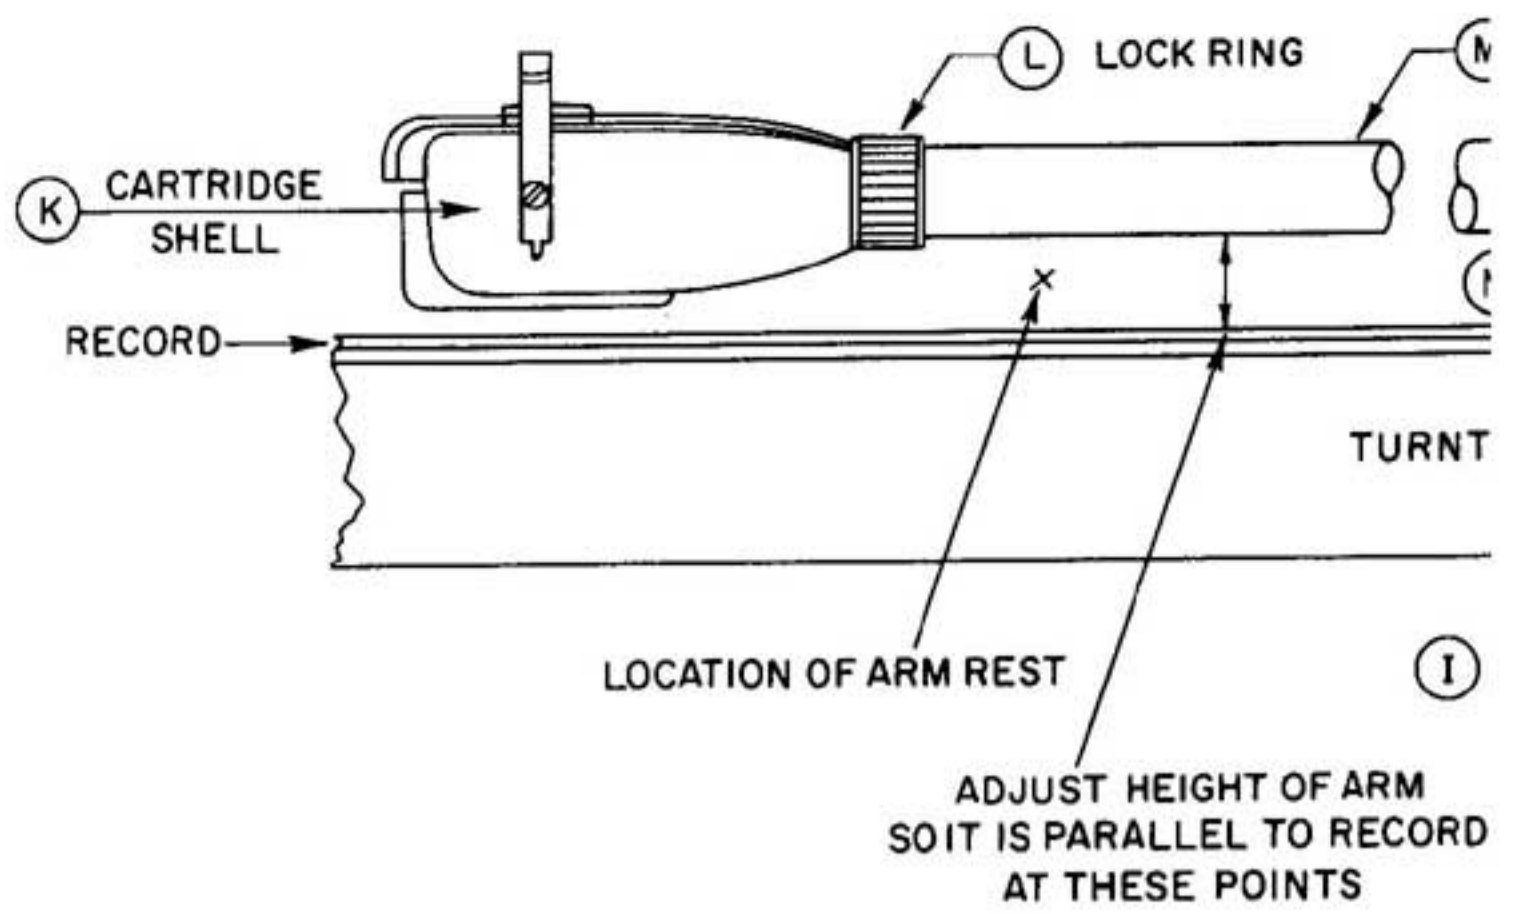

Fig. 2
- 2- Remove pal nut (I) by unscrewing from the tonearm bushing (H). ( See Fig. 2. )
- 3- Insert bushing into the hole by first pushing the plug-in cables (J) through the hole one at a time and then pushing bushing (H) into hole. Firmly seat tonearm base (F) so that it is flush with the turntable deck. The tonearm base should be positioned so that Allen Set Screw, item (G), faces the outer edge of the deck.
- 4- Slide pal nut (I) over the plug-in cables. Passing the plug-in cables through the pal nut one at a time, thread the pal nut on to bushing (H) and tighten securely against bottom of the deck. This nut is not attached until the tonearm base is revolved in a position so that the stop in the base does not allow the tonearm to swing beyond the center of the turntable.